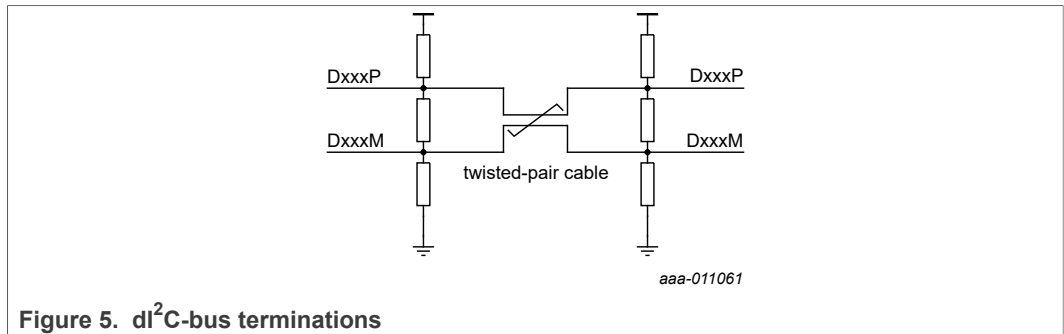

Figure 5. dl2C-bus terminations
The dI2C-bus is also biased to an idle state (D+ more positive than D-) to be compatible with the I2C-bus/SMBus wired-OR scheme, when not transmitting traffic (data). This allows every node to receive broadcast messages from the Controller, and return ACK/NACK and data in response. Biasing is done with additional resistors, connected to VDD(B) and VSS (the local ground), as shown in Figure 5. The transmission line is terminated in the characteristic impedance of the cable, typically 100 Ω. This is the value defined by three resistors, the other two resistors providing the idle condition bias to the twisted pair.